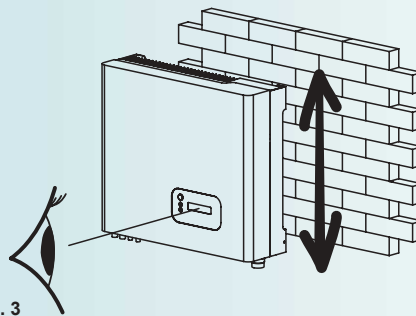

Fig. 3
- Choose a location that makes it possible to easily read the LCD (Fig. 3).